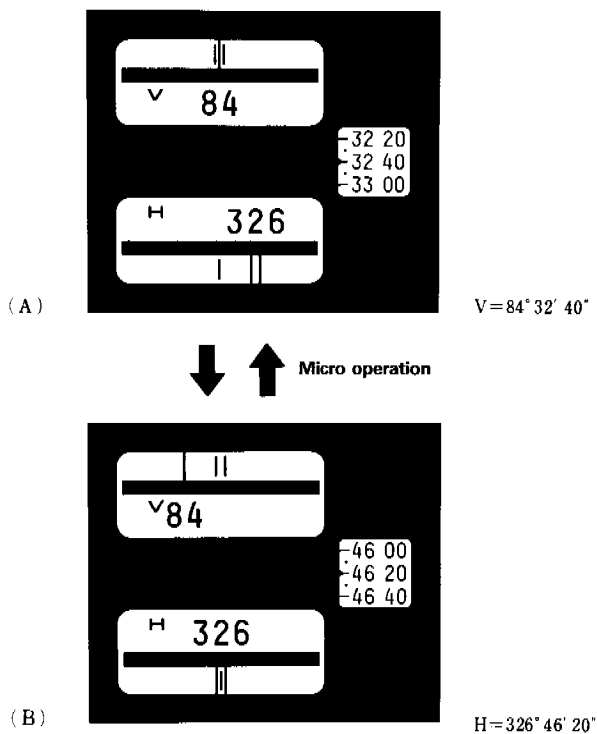

Fig. 21
2. Turn the optical micrometer knob until one of the index lines of the H mark seen in the lower part of the field of view comes to the center of two graduation lines (Fig. 21 to 23, B).
( $326^{\circ} 46'20''$  in case of Fig. 21, B)
2. Turn the optical micrometer knob until one graduation line comes to the center of the two index lines of the V mark seen in the upper part of the field of view. (Fig. 21 to 23, A)
( $84^{\circ} 32'40''$  in Fig. 21, A)